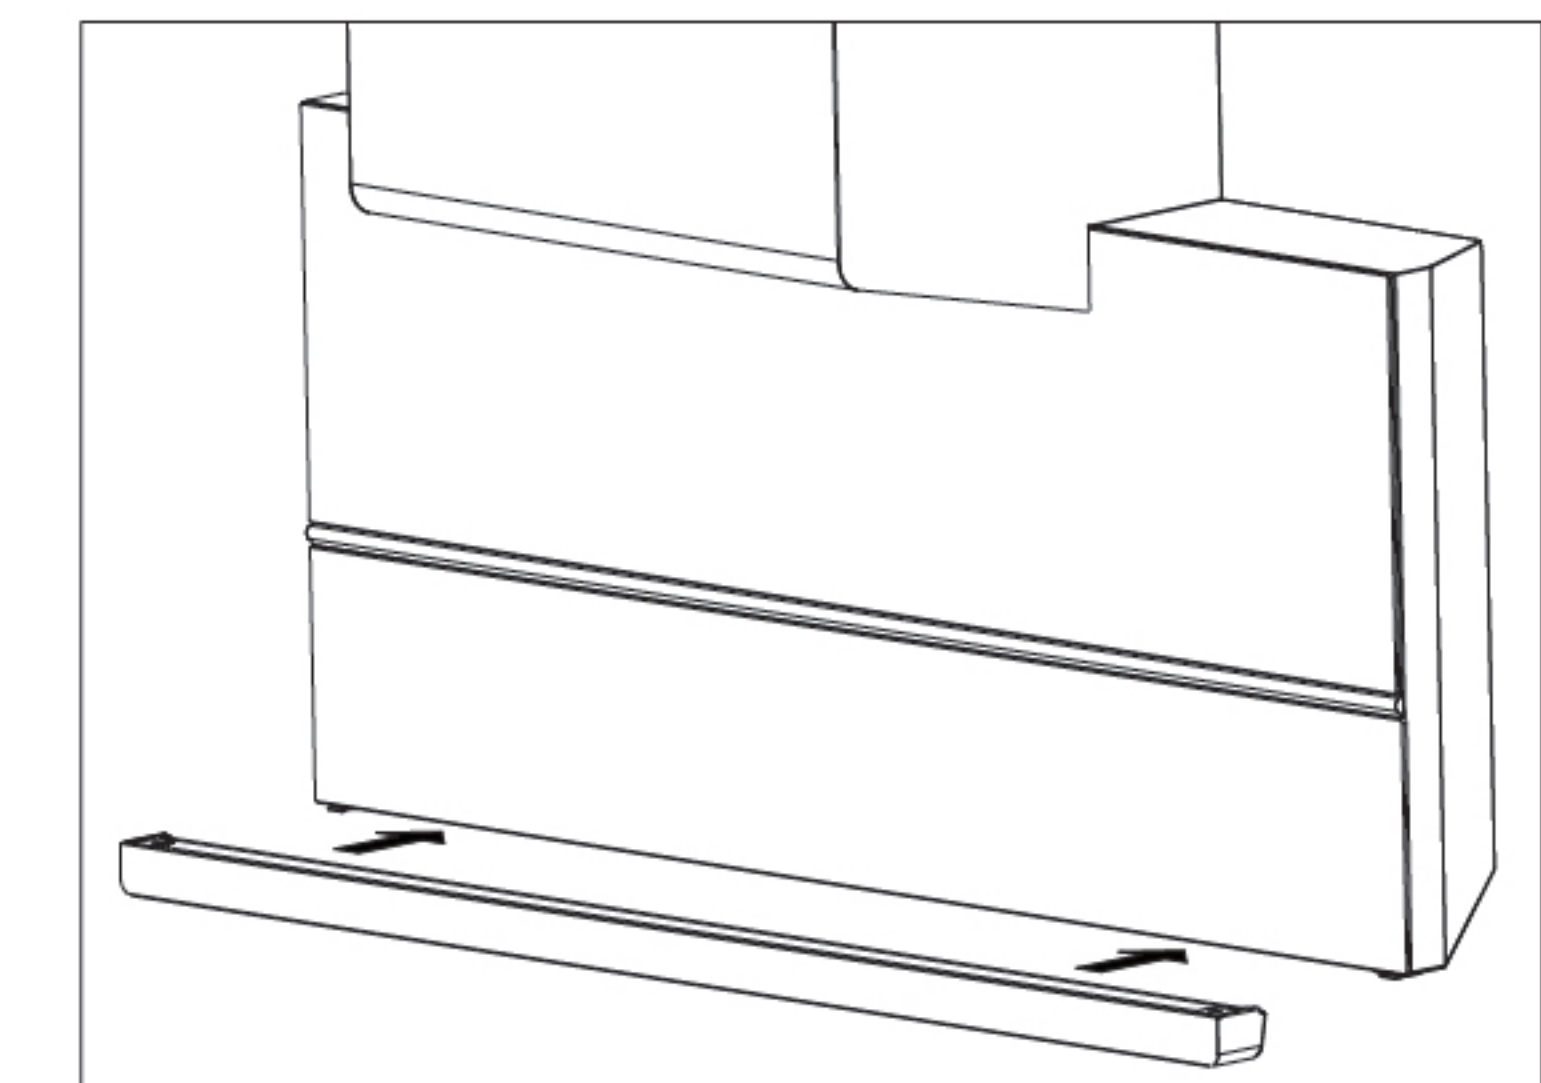

Fig.22
17. Install the oil cup (as shown in Fig. 22).